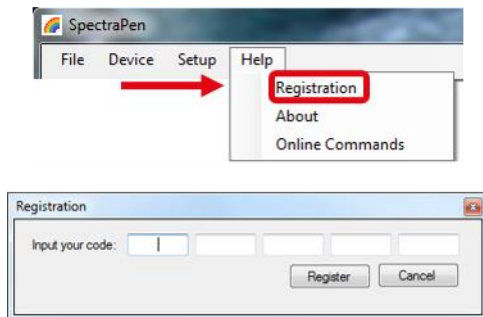

Fig. 19 SW registration.
2. To connect and recognize the PolyPen-Aqua device in the SpectraPen software, proceeds first with the registration of the SpectraPen software (Fig. 19).